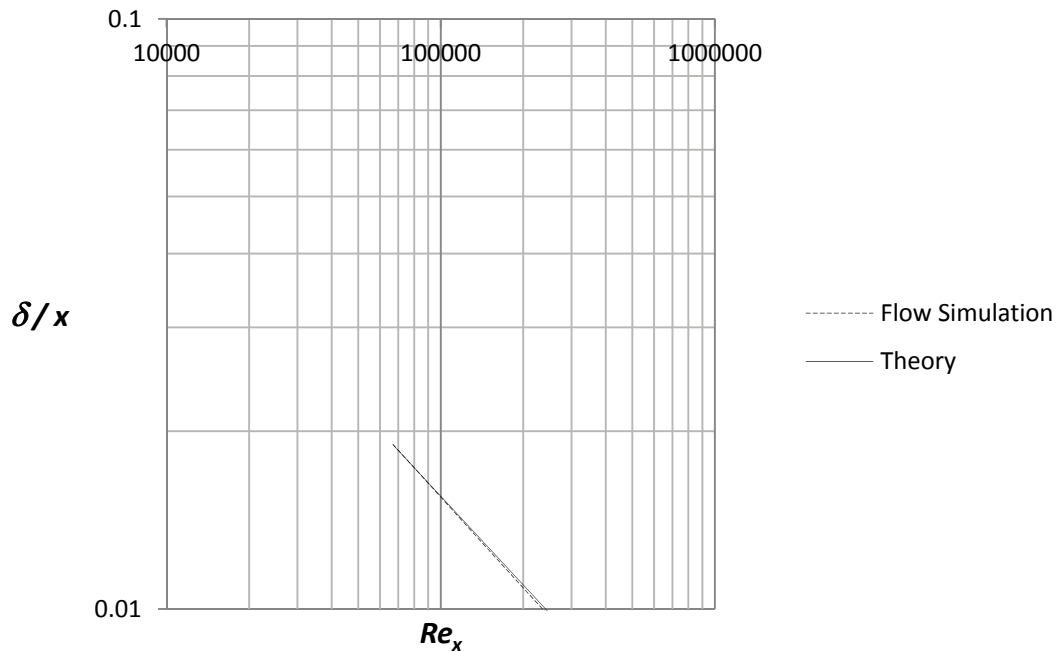

Figure 2.25b) Comparison between Flow Simulation and theory on boundary layer thickness
27. Place the file “xy-plot figure 2.25b)” into the **Local Disk (C:)/Program Files /SolidWorks Corp/SolidWorks Flow Simulation/lang/english/template/XY-plots** folder to make it available in the **Template** list. Repeat step 24 and select the new template for the XY-plot as shown in figure 2.25b). Rename the xy-plot to **Boundary Layer Thickness**.